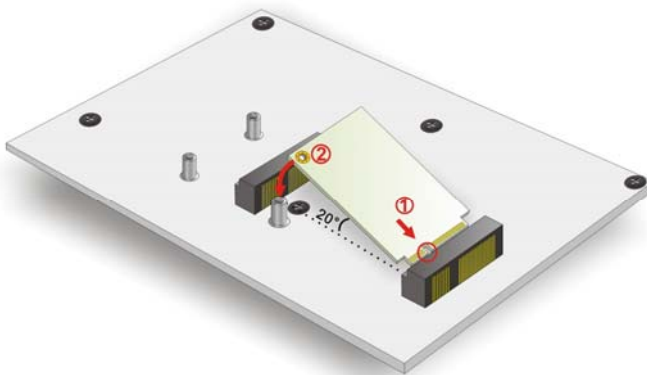

Figure 4-13: Insert the Full-size PCIe Mini Card into the Socket at an Angle
Step 3: Insert into the socket at an angle. Line up the notch on the card with the notch on the connector. Slide the PCIe Mini card into the socket at an angle of about 20° (Figure 4-13).